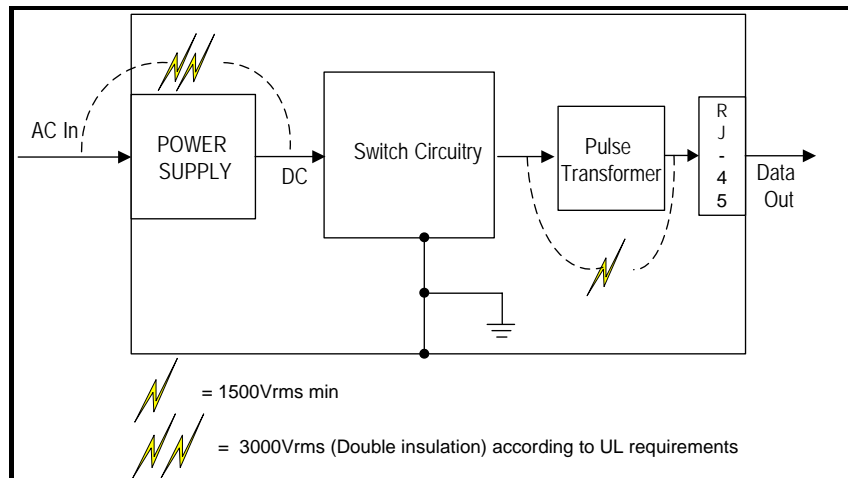

Figure 2: Standard Switch Circuitry
- For a switch with no PoE circuitry: isolation requirements between the physical inputs and the data connectors are met by using an isolated AC/DC power supply and isolated pulse transformers (see Figure 2).